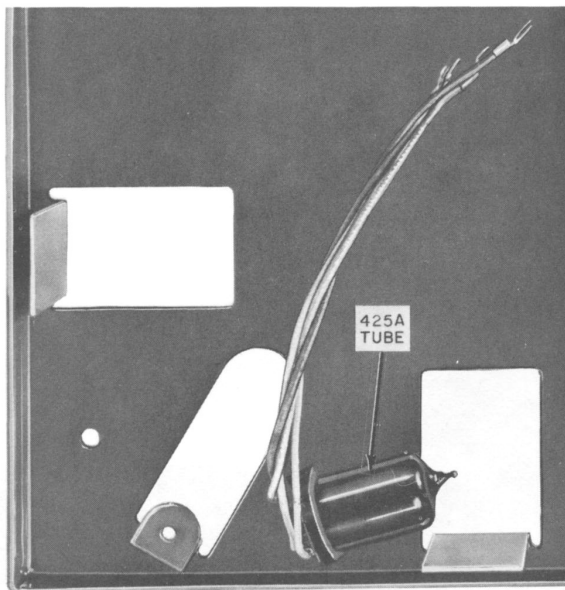

Fig. 4—Installation of Cold-Cathode Tube on Base Pan Assembly
3.06 To install on the base pan assembly, secure the tube to an existing nailing hole using the mounting screw furnished with the tube (Fig. 4).